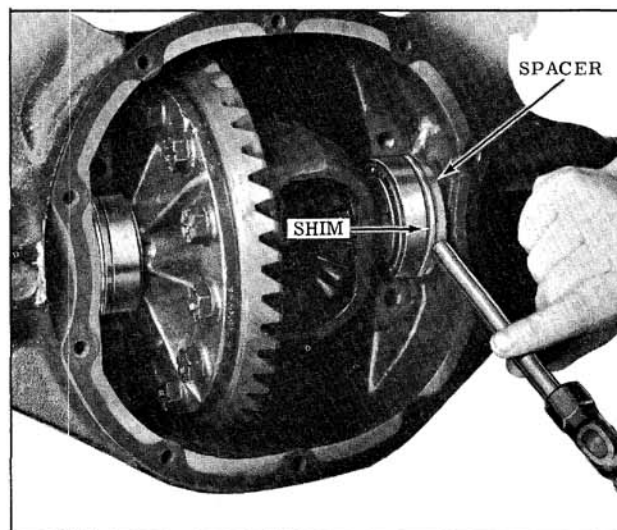

Fig. 10-31 Installing Shim
2. Place differential case and bearing assembly in position in carrier. Slip left shim in position at left bearing, then drive right shim carefully into position as shown in Fig. 10-31.